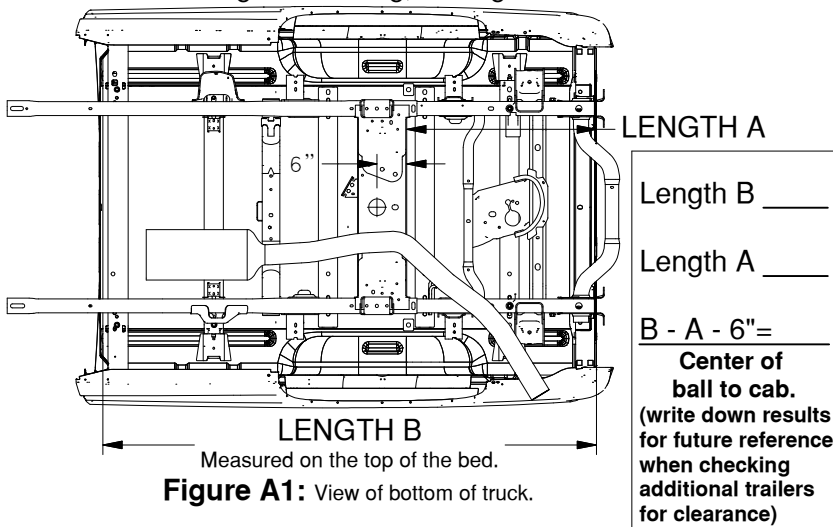
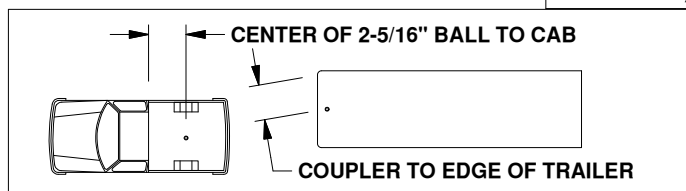

Figure A1: View of bottom of truck.
Figure A2: Truck and trailer diagram
1. **Determine cab clearance:** Under the truck bed, measure from the rear most edge of the C-channel frame crossmember (over the axle) to the end of the bed, see figure A1, Length A. Next, inside the bed, measure the length of the bed from the rear edge to the front, see figure A1, Length B. Subtract the crossmember measurement (length A) from the bed measurement (Length B). Then subtract an additional 6 inches. This will give you the amount of clearance you have between the 2-5/16" ball location and the cab. Measure the distance from the center of the coupler to the farthest forward corner point of the trailer. Compare this distance to the measurement from the center of the ball to the cab. These measurements will allow you to see how much clearance you will have between the cab and the trailer while towing and turning, see figure A2.